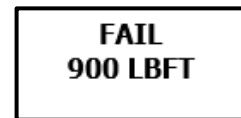

Figure 4.5-3: Fail
4. If the actual torque is outside of target torque tolerance, the "FAIL" message will appear along with the actual torque (Figure 4.5-3).